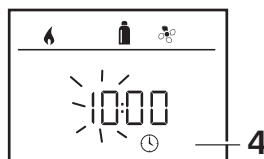

Fig. 14
- Use the rotary push button (Fig. 1 – 8) to select the "Set clock" icon in the menu line (Fig. 14 & 15 – 4).